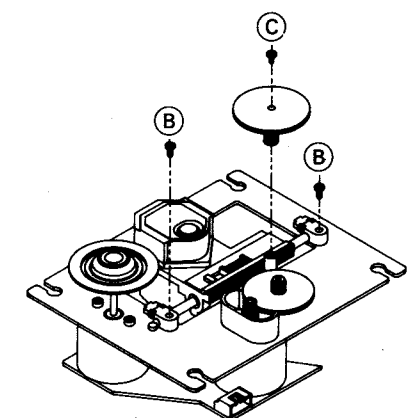

Figure 6
3. Remove a washer (B) holding the gear. (See Figure 6.)
4. Remove two screws (C). (See Figure 6.)